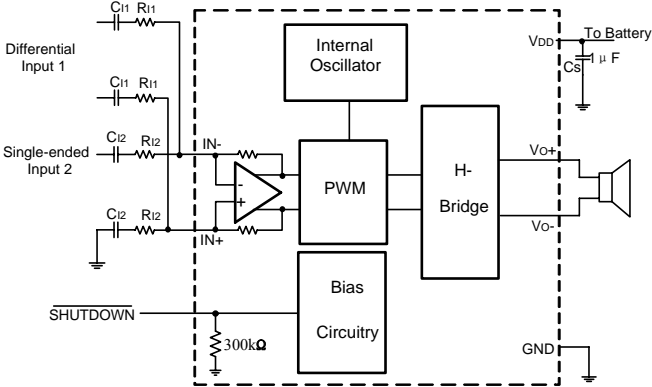

Figure 17. Application Schematic with SN2005 Summing Differential Input and Single-Ended Input Signals
Figure 17 shows how to sum a differential input signal and a single-ended input signal. Ground noise may couple in through IN- with this method. It is better to use differential inputs. The corner frequency of the single-ended input is set by  $C_{I2}$ , shown in equation (8). To assure that each input is balanced, the single-ended input must be driven by a low-impedance source even if the input is not in use.